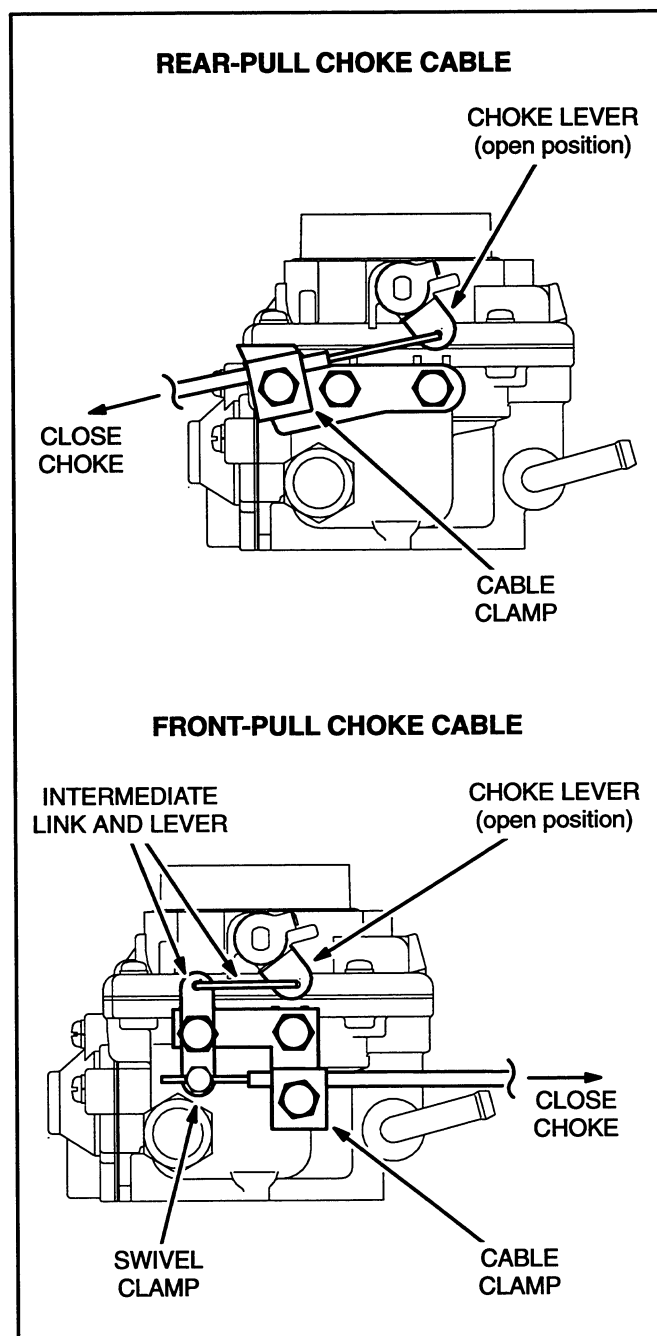

FIGURE 7. CHOKE CABLE
Referring to Figure 7, reconnect and reclamp the choke cable as follows:
3. Connect the choke cable to the choke lever. (The cable will either hook into the choke lever or be clamped by a screw in a swivel on the choke lever. See Figure 7.) Pull the slack out of the cable and clamp it.